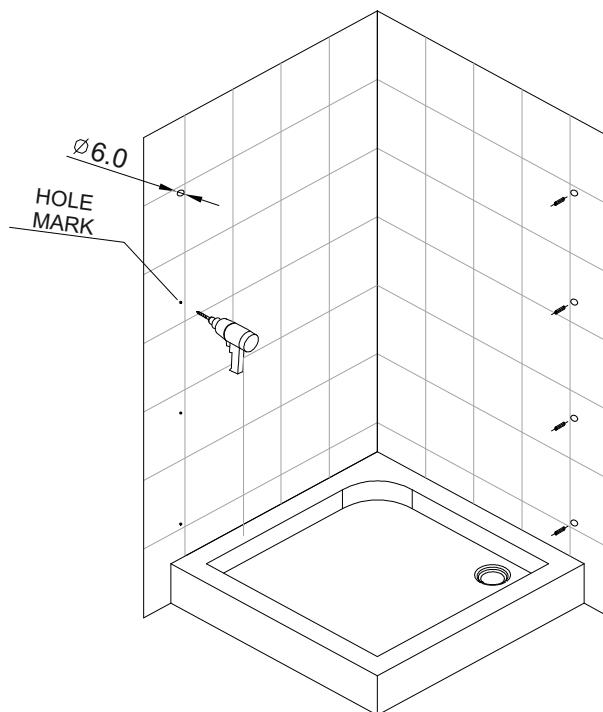

Fig. 2
- 2) Drilling the holes (8-- ϕ 6mm) according the mark, insert the 1) plastic plug into the holes . As Fig.2